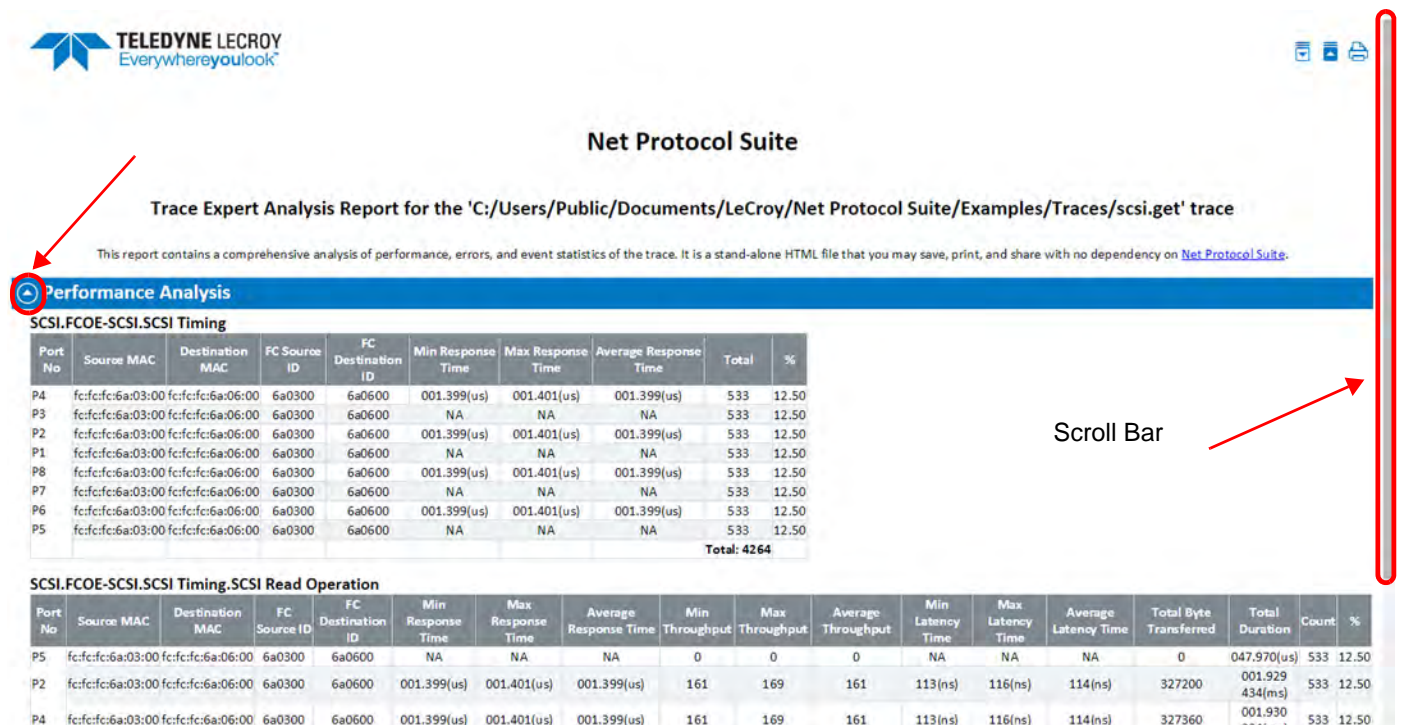

Figure 5.107: Trace Expert – Performance Analysis
1. To view Performance Analysis, click its  expansion icon (Figure 5.107).